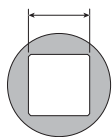

Fig.2
- Insert the planetary drive into the auger hub, ensuring hole alignment (Figure 2).